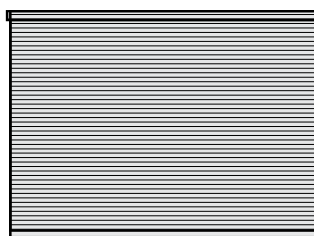

Fig. 2
- Ordered shades that are wider than the maximum fabric width will be made with the fabric turned width for height - horizontally oriented (Fig. 2). This applies only to fabrics that can be turned width for height (railroaded).